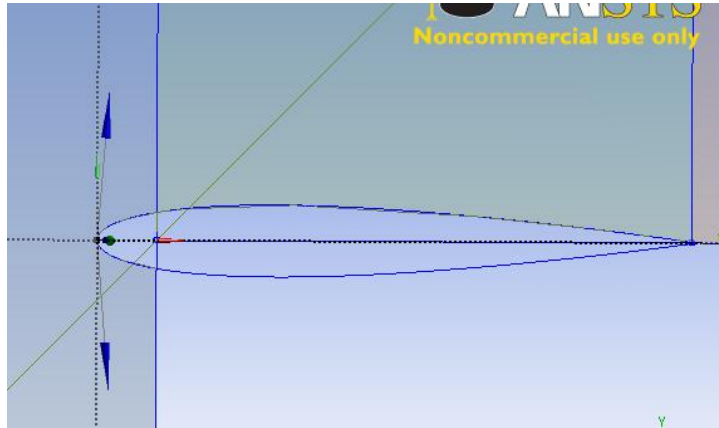

Fig. 3. Airfoil body subtracted from half of cylinder and rectangular.
9. Subtract the airfoil surface from fluid areas surrounding the body (half of circle and rectangle). **Create/Boolean/Subtract**. **Preserve Tool Bodies** set to No. See fig. 3